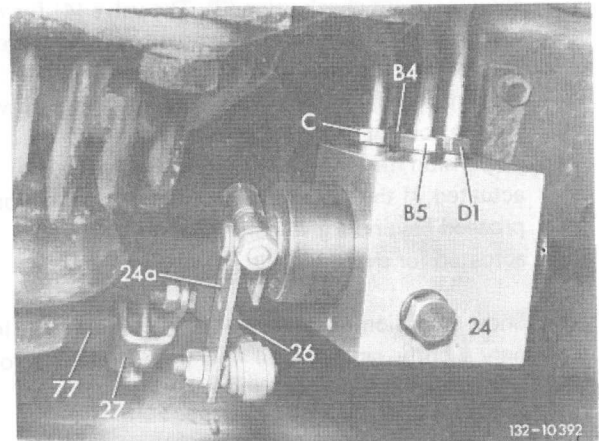
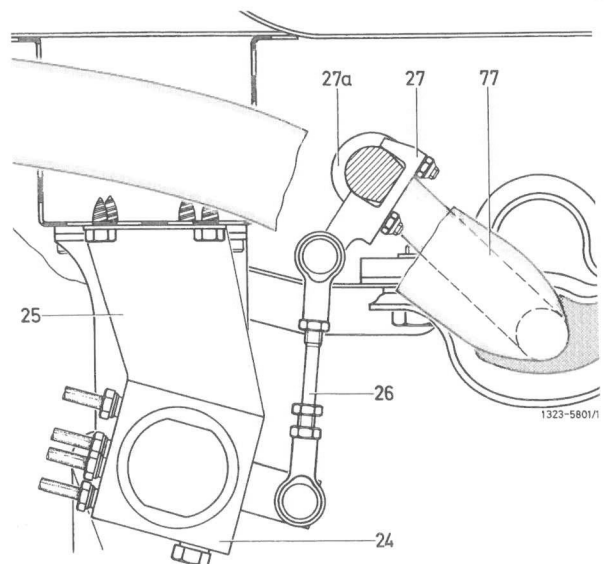

Fig. 145
Fig. 146
The level controller for the rear axle is attached to frame floor (Fig. 145). It is actuated via the connecting rod and the lever on the torsion bar (Fig. 146).
Level controllers have one connection, each for the pressure line (B4) from adjusting switch; the pressure line (B5) toward pressure reservoirs, the control pressure line (C) and the return line (D1) toward valve unit (Fig. 145).